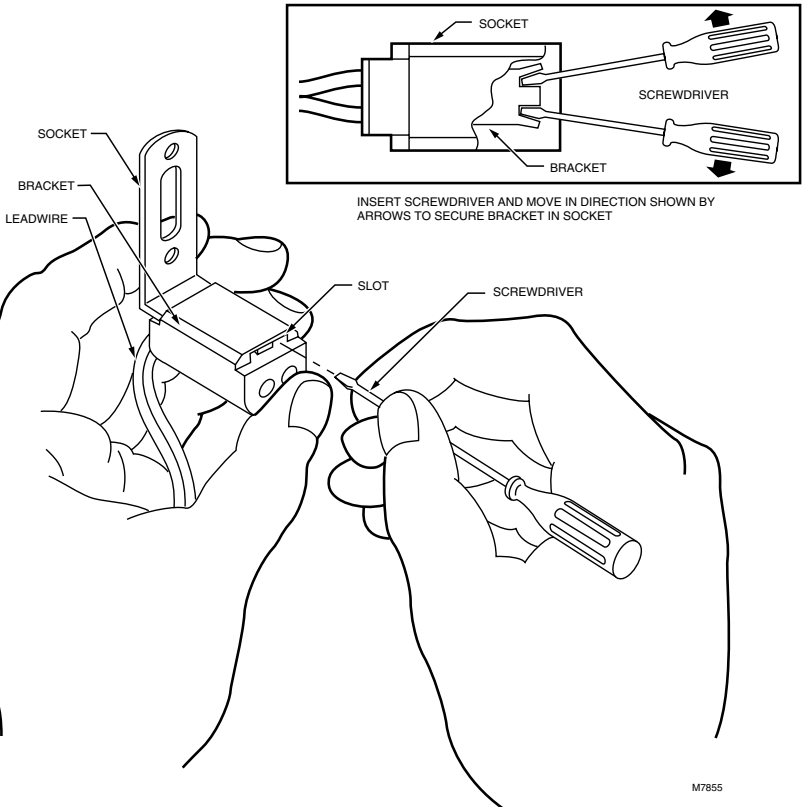

Fig. 4. Insert screwdriver to secure bracket in socket.
- 3 While holding the mounting bracket in the slot, insert the screwdriver in the other end of the slot (Fig. 4). Bend the screwdriver, first to the left and then to the right, to crimp the end of the mounting bracket and hold it in position.